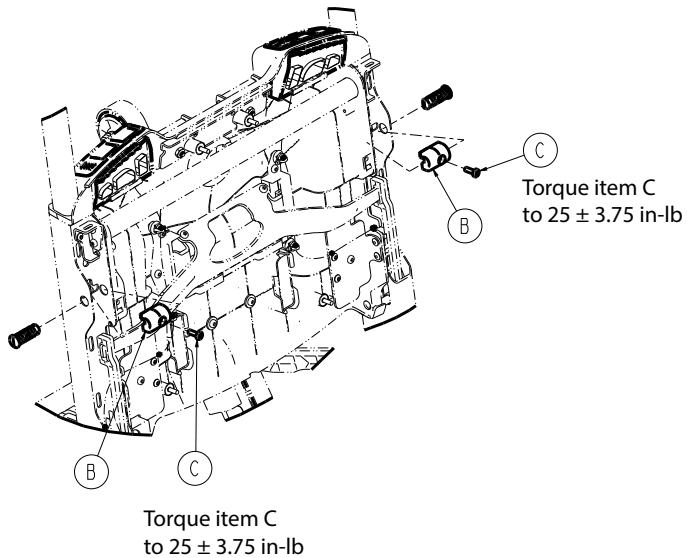

Figure 44 – Remove the dead stops
- a. Using a T25 Torx driver, remove the two pan head thread forming screws (C) that secure the two grab bar dead stops (B) to the grab bar (Figure 44). Save the screws and dead stops.